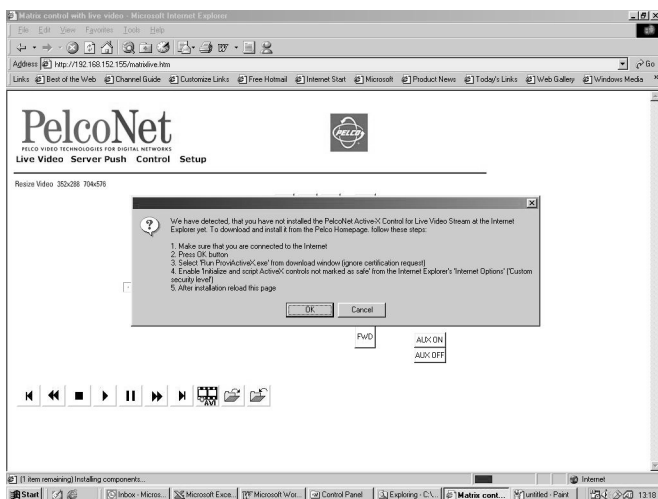

Figure 32. ActiveX Dialog Box
- Without first installing ActiveX (Figure 32)